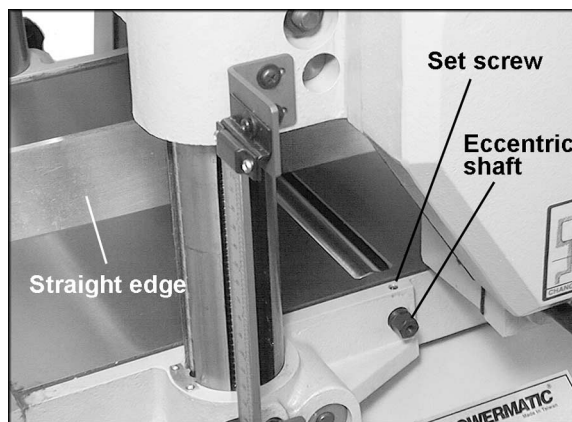

Figure 16
3. On one side of the table, loosen the set screws (Figure 16) with a 3mm hex wrench, and turn the eccentric shafts to raise or lower the rollers.